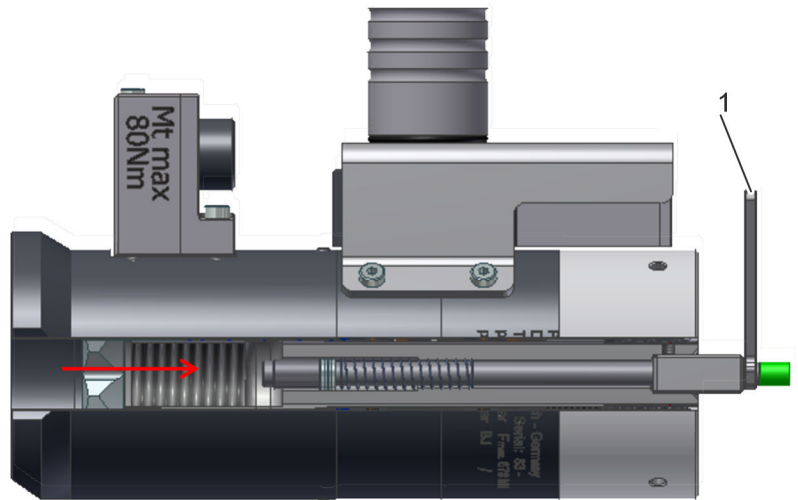

Fig. 18: Pushing through the measuring rod
6. → Push through the measuring rod until you can slot the size 6 open-end spanner (Fig. 18/1) onto the measuring rod's spanner flats.